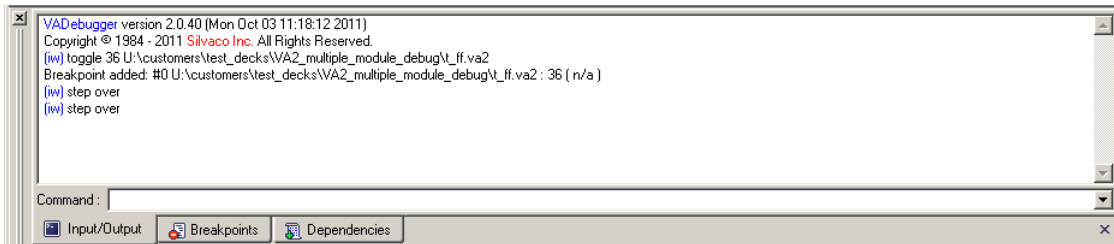

Figure 9-18 Input/Output Panel in the Console Window
- **The Input/Output panel:** This panel acts as a console where a trace of the executed command is output. A command line prompt allows you to enter commands in a text format. The **Input/Output** panel is displayed in Figure 9-18. The list of available commands can be obtained by typing ‘help’ in the command line.